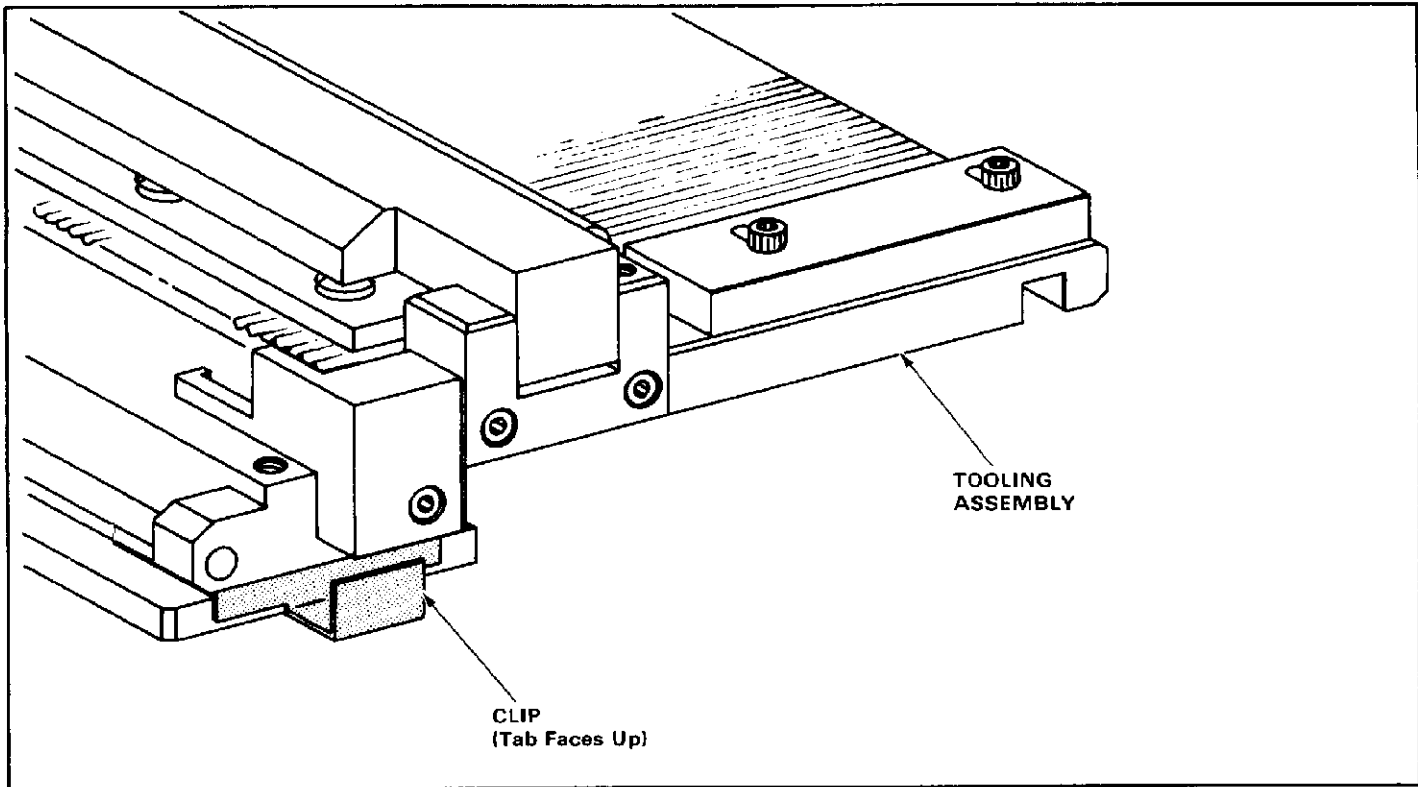

Fig. 2
3. SETUP PROCEDURE (Figure 2)
9. Install clip on rear of tooling assembly, making sure tab on clip faces up, as shown in Figure 2.